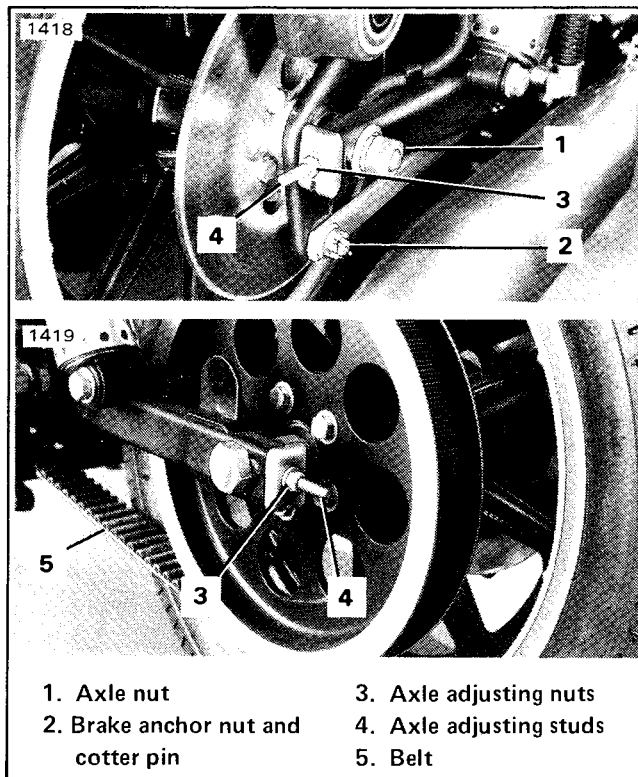

Figure 4. Secondary Belt Adjustment
1. (See Figure 4.) Loosen the axle nut (1). Remove the cotter pin and loosen the brake anchor nut (2). Turn adjusting nuts (3) as necessary to move axle and correctly adjust belt tension. Turn each adjuster nut (3) an equal number of turns to keep the wheel aligned. To move axle forward, loosen adjuster nuts an equal number of turns and tap lightly on ends of adjuster studs (4).